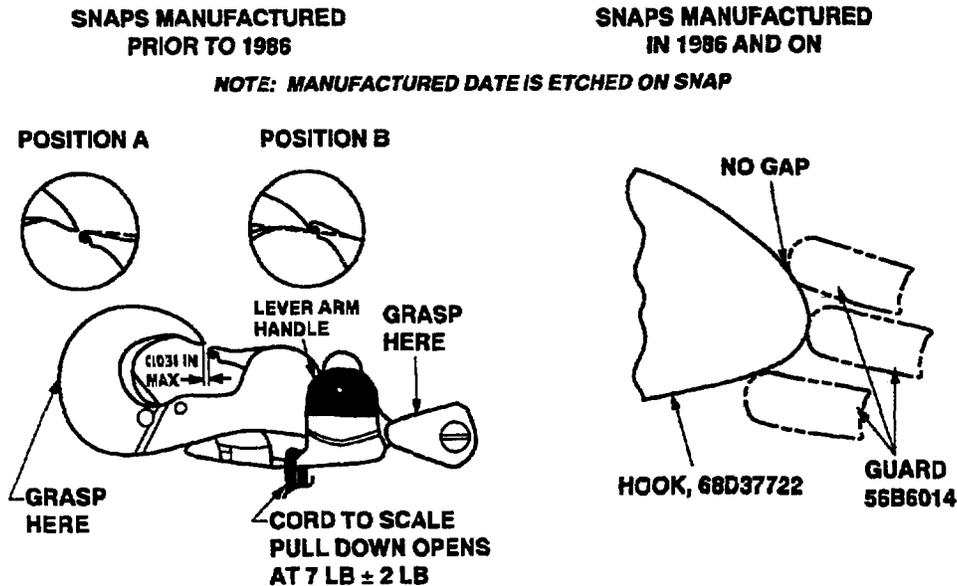

Figure 5. Hook and Guard Alignment
(1) Inspect ejector snaps for alignment of guard with hook. Allowable positions of snap guard are between positions A and B where the top of the guard is aligned with the points of hook (position A) or the bottom of the guard is aligned with the point of the hook (position B) (Figure 5).
(2) Using "V" ring, insert into ejector snap. Ensure ejector snap safety guard closes.
(3) Perform pull force test on ejector snaps. Pull force required to release ejector snap should be 7 ± 2 lbs. The ejector snap lever may be adjusted (spread or crimped) to obtain the required pull (Figure 5).
(4) Ejector snaps failing the routine inspection shall be adjusted/removed from service. It shall be the responsibility of the routine inspection to remove and replace ejector snaps found defective during this inspection.